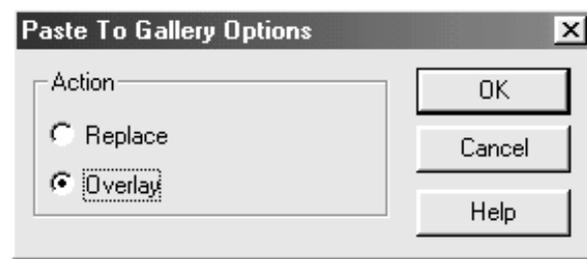

Figure 7-7. Paste to Gallery Options Dialog Box
9. On the same pane that contains the first graph, click either the Paste or Paste Link command to copy the second graph into the StatGallery; the Paste to Gallery Options dialog box displays (see Figure 7-7).